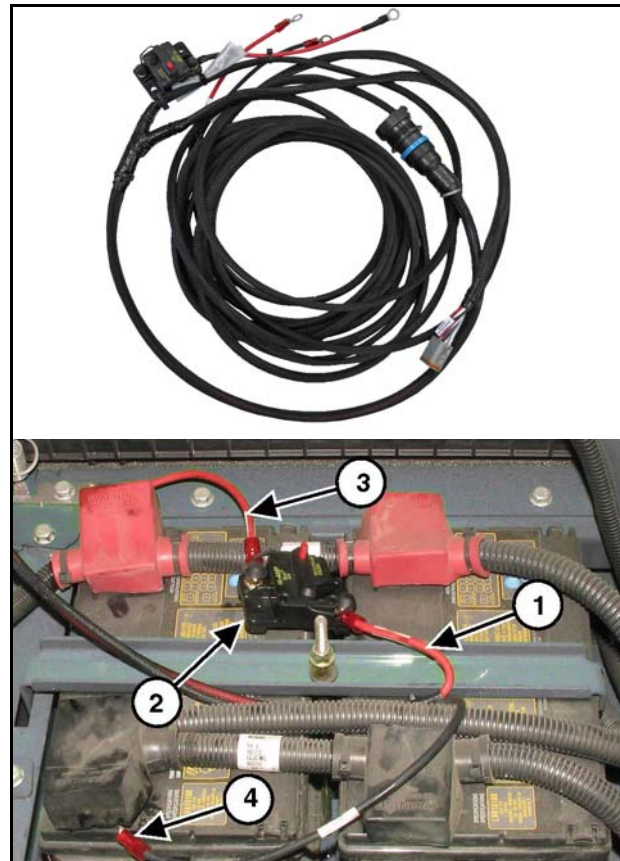

Figure 5
[Figure 5] - Connect the system power harness positive (+) red cable (1) to the circuit breaker (2).